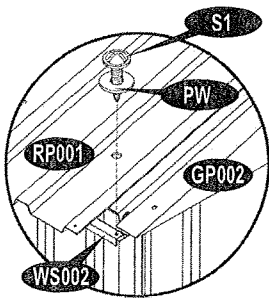
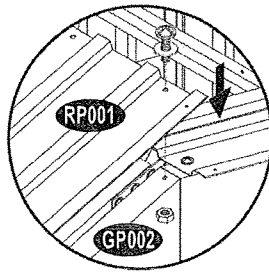

Fig. 1
Fig. 2
**1.** Place roof panels on left side of the garage as **Numbered**. Start to fix roof panel (RP001), line up the holes with the gable panel (GP002) and secure with (S3) bolt and nut with plastic washer (PW) Fig. 2. Line up the holes with roof support and wall top support, and secure with (S1) screws with washer (PW) Fig. 1.